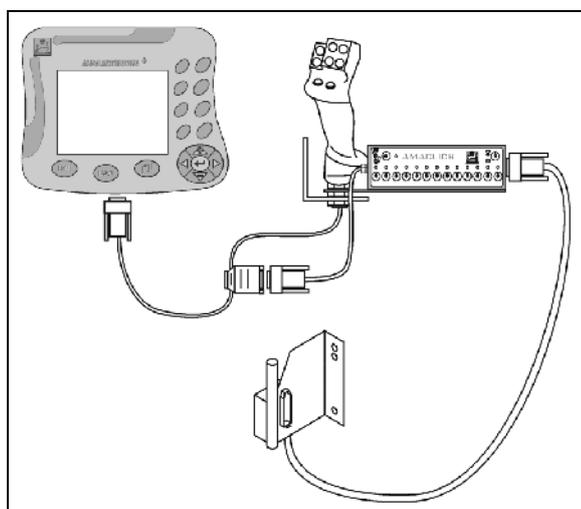

Fig. 133
- With multi-function stick according to Fig. 133.